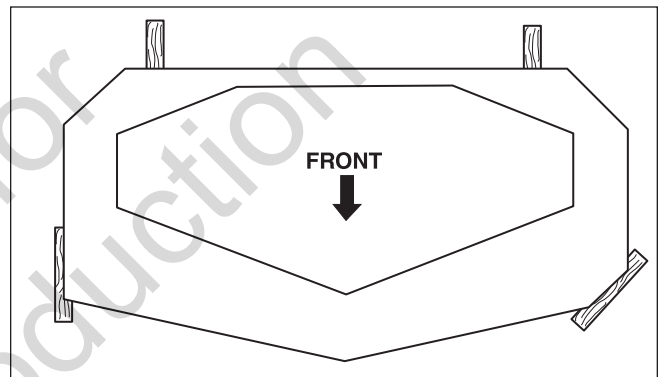

Figure 53. 2 x 4 Locations (Arrow points toward front of the deck)
3. Place 2 x 4 blocks under each corner of the mower deck with the 3-1/2" sides being vertical. See Figure 53.